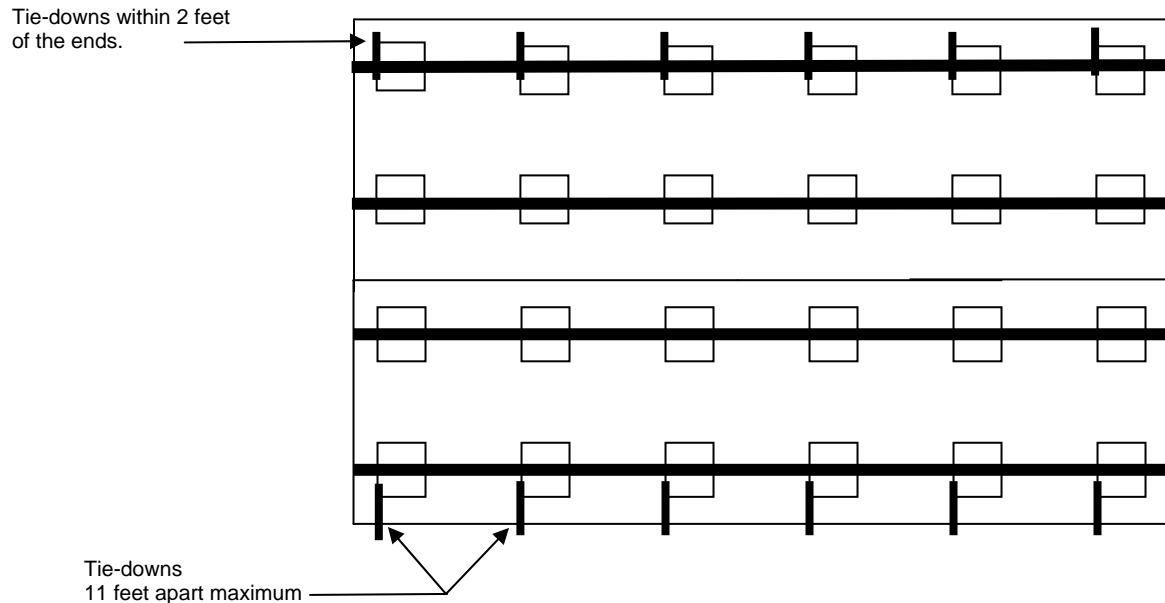

Figure 5
- The maximum space between assemblies is 11 feet unless your manufacturer requires a closer spacing. See Figure 5.